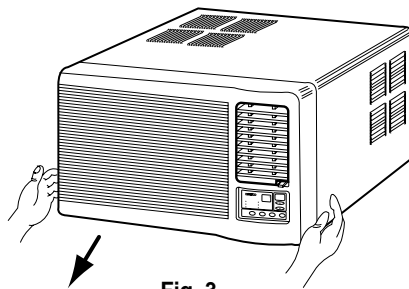

Fig. 3
5. Push lower left side of the cabinet and Pull lower left side of the front grille until it is separated from the cabinet as shown in Fig. 3